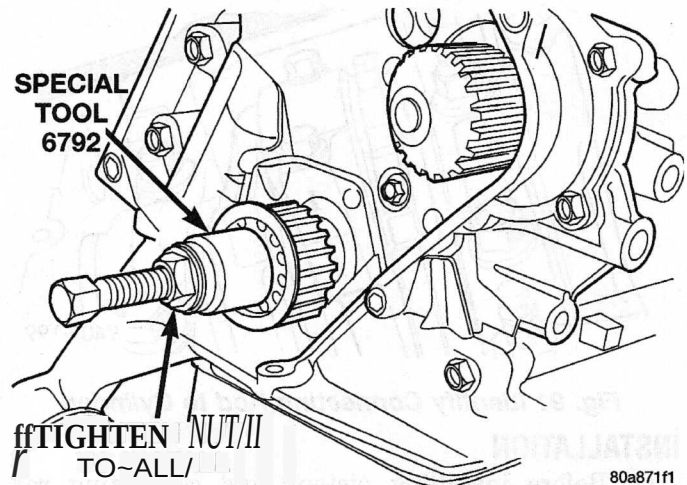

Fig. 89 Crankshaft Sprocket—Installation
- (6) Install crankshaft sprocket using Special Tool 6792 (Fig. 89).
- (7) Install oil pump pick-up tube.
- (8) Install oil pan. Refer to procedure in this section.
- (9) Install Timing Belt. Refer to procedure in this section.